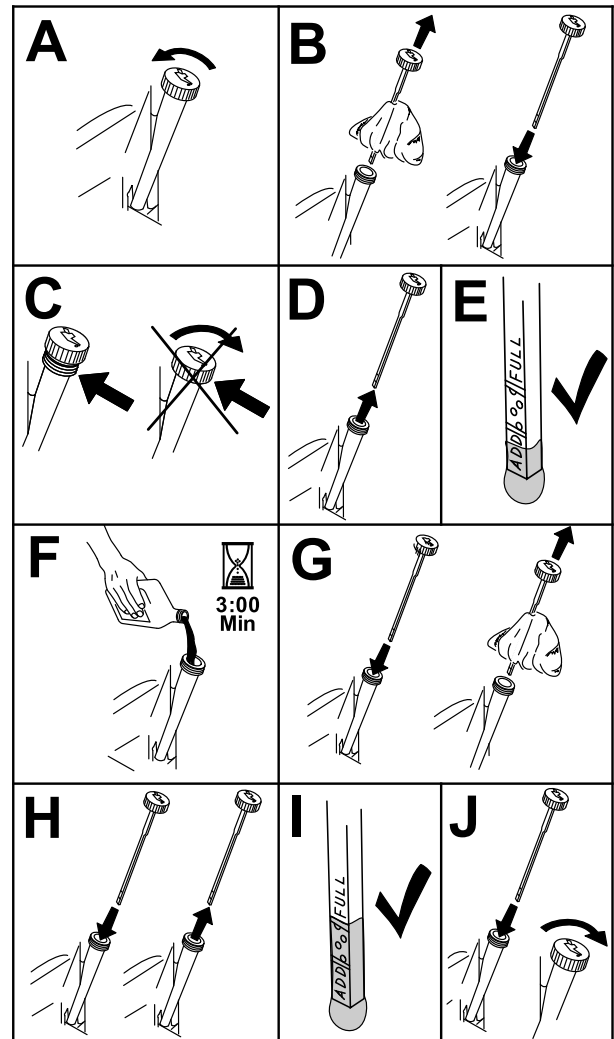

Figure 50
3. To keep dirt, grass clippings, etc., out of the engine, clean the area around the oil-fill cap and dipstick before removing it (Figure 50).